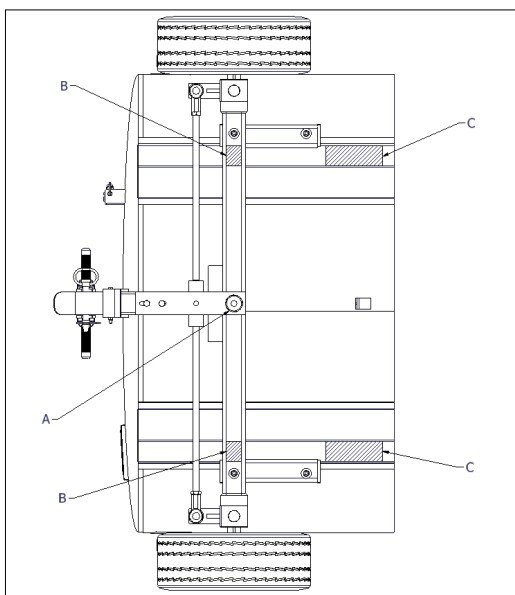

Figure 4-20 Lift Points
To remove the entire Rear Undercarriage assembly, the equipment must have the back end raised. See Section 4.15 and use Figure 4-20.
- Raise equipment with suitable maintenance jack (see Figure 4-20, arrow A for jack placement) and allow for 2-inches of space between the wheels and the ground.
- Place cribbing under tank skids to safely support the equipment. (see Figure 4-20, reference points labeled with a C)